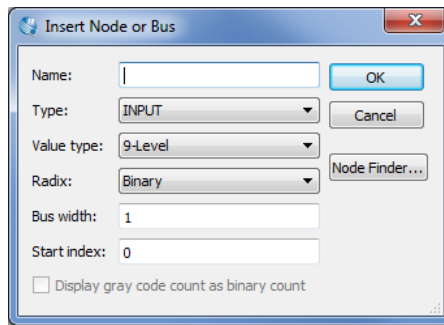
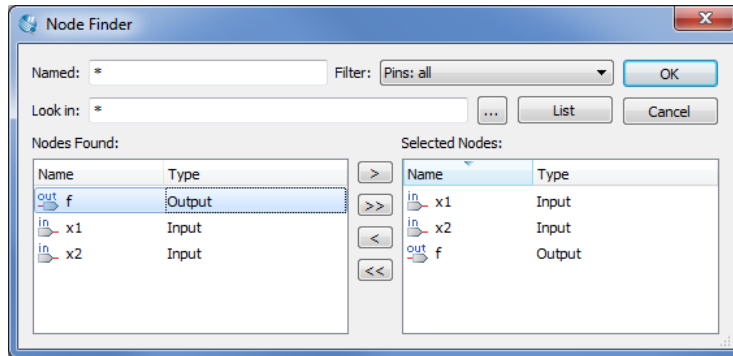
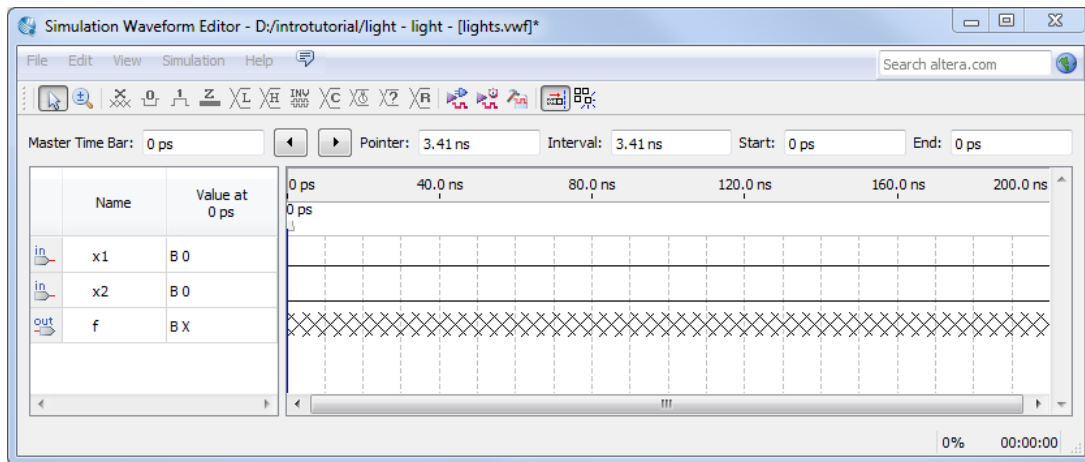

Figure 32. The Insert Node or Bus dialogue.
Figure 33. Selecting nodes to insert into the Waveform Editor.
Figure 34. The nodes needed for simulation.
- Next, we want to include the input and output nodes of the circuit to be simulated. Click **Edit > Insert > Insert Node or Bus** to open the window in Figure 32. It is possible to type the name of a signal (pin) into the Name box, or use the Node Finder to search your project for the signals. Click on the button labeled **Node Finder** to open the window in Figure 33. The Node Finder utility has a filter used to indicate what type of nodes are to be found. Since we are interested in input and output pins, set the filter to **Pins: all**. Click the **List** button to find the input and output nodes as indicated on the left side of the figure.
Click on the *x1* signal in the Nodes Found box in Figure 33, and then click the > sign to add it to the Selected Nodes box on the right side of the figure. Do the same for *x2* and *f*. Click OK to close the Node Finder window, and then click OK in the window of Figure 32. This leaves a fully displayed Waveform Editor window, as shown in Figure 34. If you did not select the nodes in the same order as displayed in Figure 34, it is possible to rearrange them. To move a waveform up or down in the Waveform Editor window, click within the node's row (i.e. on its name, icon, or value) and drag it up or down in the Waveform Editor.